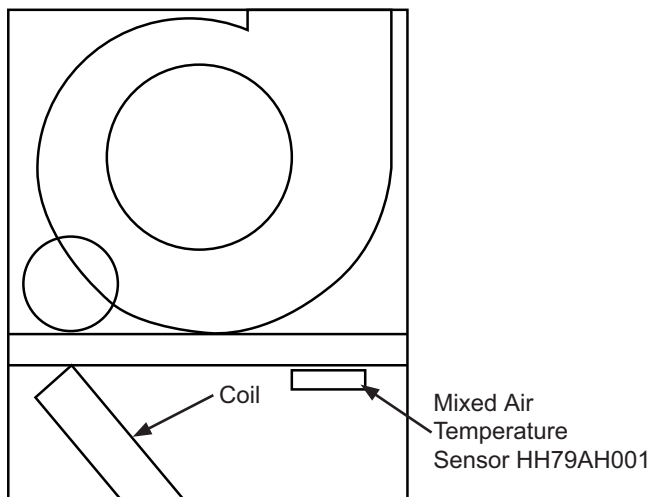

Fig. 7 — Installing HH79AH001 MAT Sensor
2. Mount the HH79AH001 mixed-air temperature sensor inside the air handler in the blower compartment as shown in Fig. 7. Sensor must be located in airflow.
3. Connect the gray wires to the supply-air temperature sensor Fig. 7.